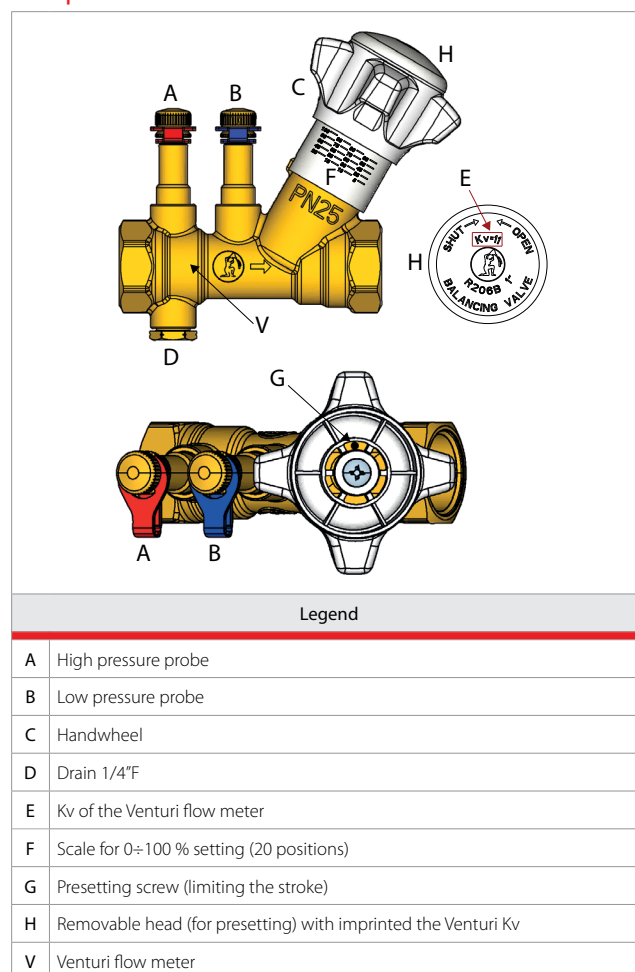
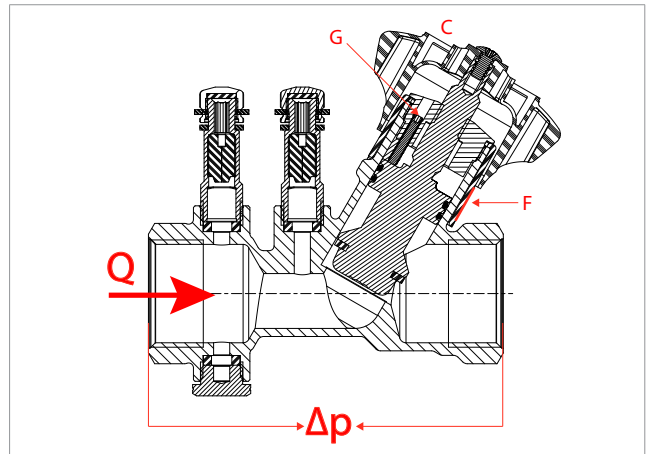

Fig. 1
Fig. 2
R206B valves are equipped with a mechanism of mechanical memory of the opening (pre-regulation). This mechanism works by limiting the handle stroke (ref. C – fig.2) through a locking screw (ref.G – fig.2).
- Make the regulation of the R206B valve by means of the handle (ref.C-fig.2), on the regulation scale (ref. F – fig.1);
- Screw clockwise until it stops the locking screw of the pre-regulation (ref.G-fig.2) by using an Allen key of 1,5 mm for versions 1/2", 3/4", 1", 1 1/4" or 2 mm for versions 1 1/2", 2".